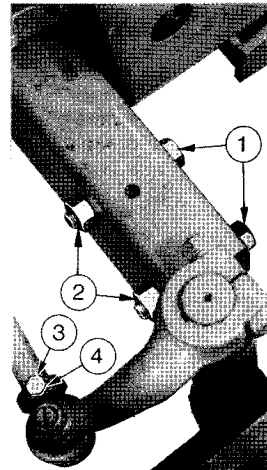
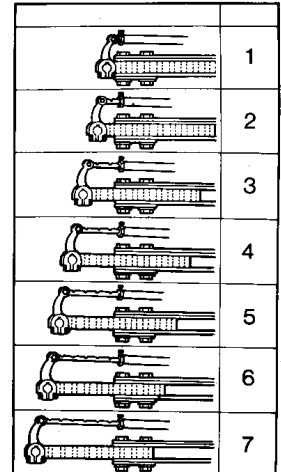

FIG. 28
FIG. 29
Key to Figs. 29 and 31
2. Fig. 28. Remove the two bolts (1) and nuts (2) each side.
3. Remove the peg bolt (3) and locknut (4) each side.
4. Slide the axle arms and the tie rods to the required track setting (see Fig. 29).
5. Refit the bolts (1) and nuts (2) and tighten them to a torque of 240 Nm (180 lbf ft).
6. Refit the peg bolts (3) and the locknuts (4). Do not overtighten the peg bolts.